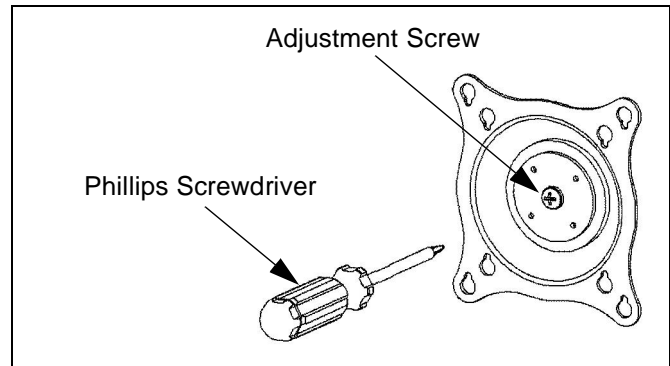

Figure 7: Single Display Adjustment
2. Using Phillips screwdriver, slightly loosen or tighten the adjustment screw as necessary (See Figure 7).